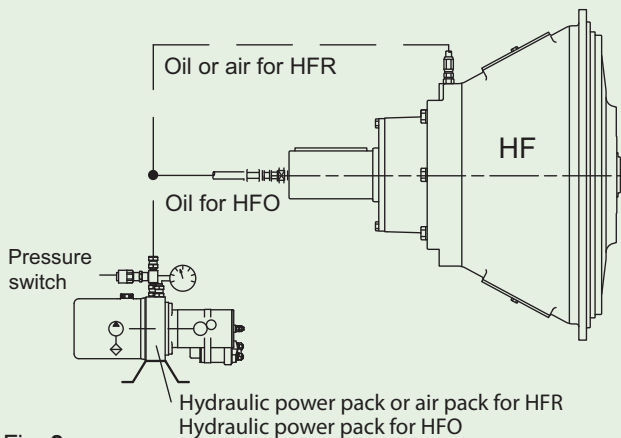

Fig. 3
- By MPCB R5 with hydraulic control block, through continuous monitoring of some parameters proper transmission operation is assured. Any abnormal condition is promptly detected and countermeasures quickly enforced to protect the transmission as well as the engine (fig.3)